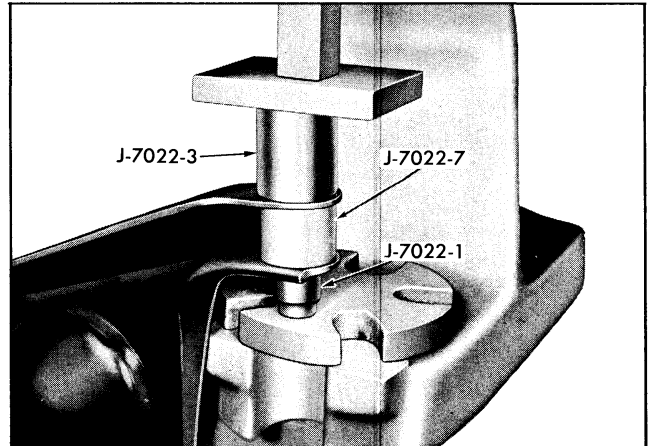

Fig. 3-23 Removing Rear Bushing from Front Lower Control Arm
2. Rest arm on remover J-7022-1 as shown in Fig. 3-23. Place spacer J-7022-7 around bushing. Then, with sleeve J-7022-3 between control arm and arbor, press bushing from arm. Remove other bushing from arm in same manner.